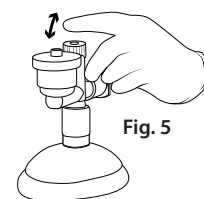

Fig. 5
1. After pressures have been verified, remove and discard the patient port plug and connect patient port to face mask (Fig. 5) and place over patient's mouth and nose, or connect patient port directly to an endotracheal tube.
2. Ventilate patient by placing and removing thumb (or finger) over the PEEP dial hole (Fig. 5) to allow inspiration and expiration achieving the desired PIP, PEEP, and respiratory rate. Monitor patient and continue ventilation as needed.